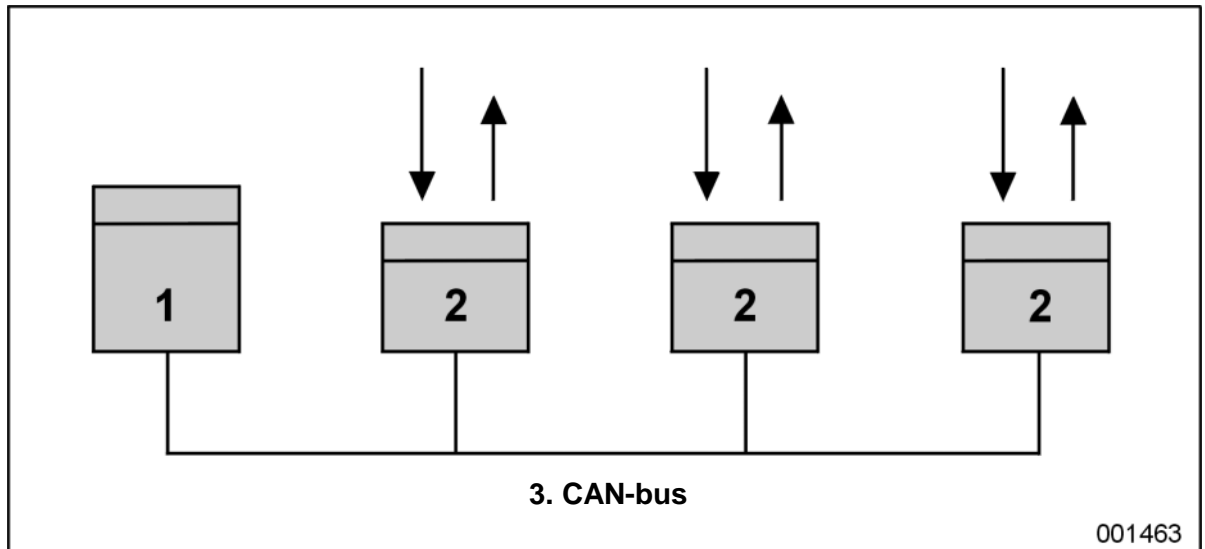

Figure 3: Basic multiplex system with: 1. Master (1x) 2. Nodes (3x) and 3. CAN-bus (1x)
- A CAN-bus (connection between the elements of the system – see Figure 3).